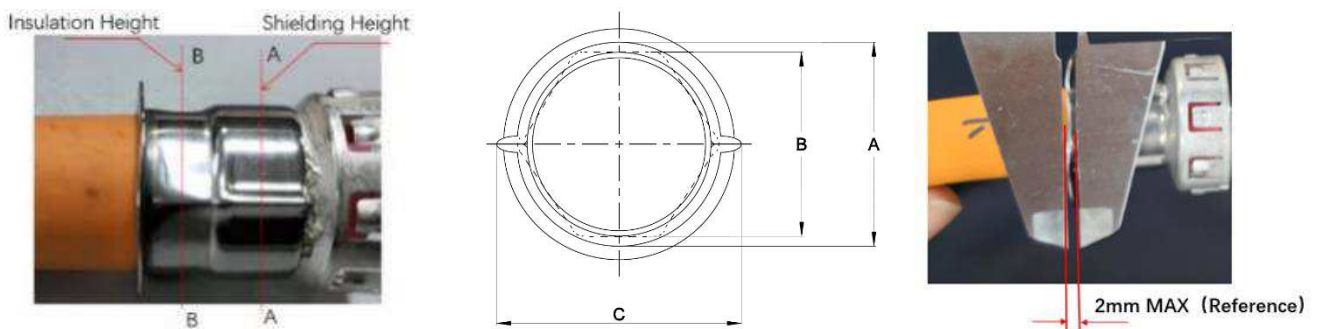

Figure 12: round crimp for shielding and hex crimp for insulation crimp
- After shielding crimp, flange deformation should not exceed 2mm (refer to Fig 12)
- 压接后，法兰盘变形不能超过2mm（参照图12）